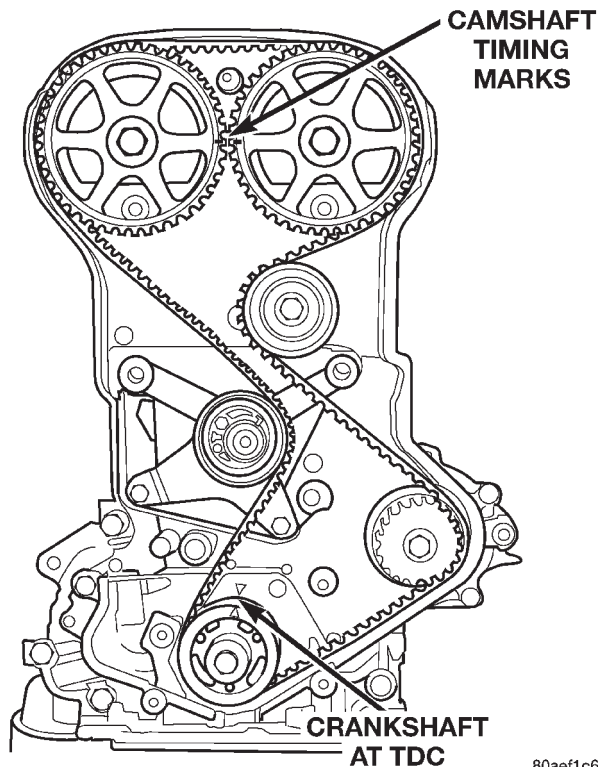

Fig. 56 Timing Mark Alignment
idler pulley, camshaft sprockets and then around the tensioner pulley (Fig. 56).
(5) Move crankshaft sprocket to TDC to take up belt slack.
(6) Release the tensioner by removing the pin or Allen wrench from the belt tensioner.
(7) Rotate crankshaft 2 revolutions and check the alignment of the timing marks (Fig. 56).